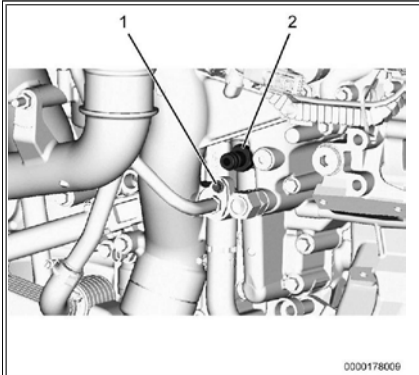

Figure 5: Adapter Assembly Fitting.
14. Remove M6 bolt (Figure 5, Item 1) from heater return tube and discard.
15. Install adapter assembly fitting (Figure 5, Item 2). Using torque wrench, tighten fitting to 52 lb-ft (70 N•m).